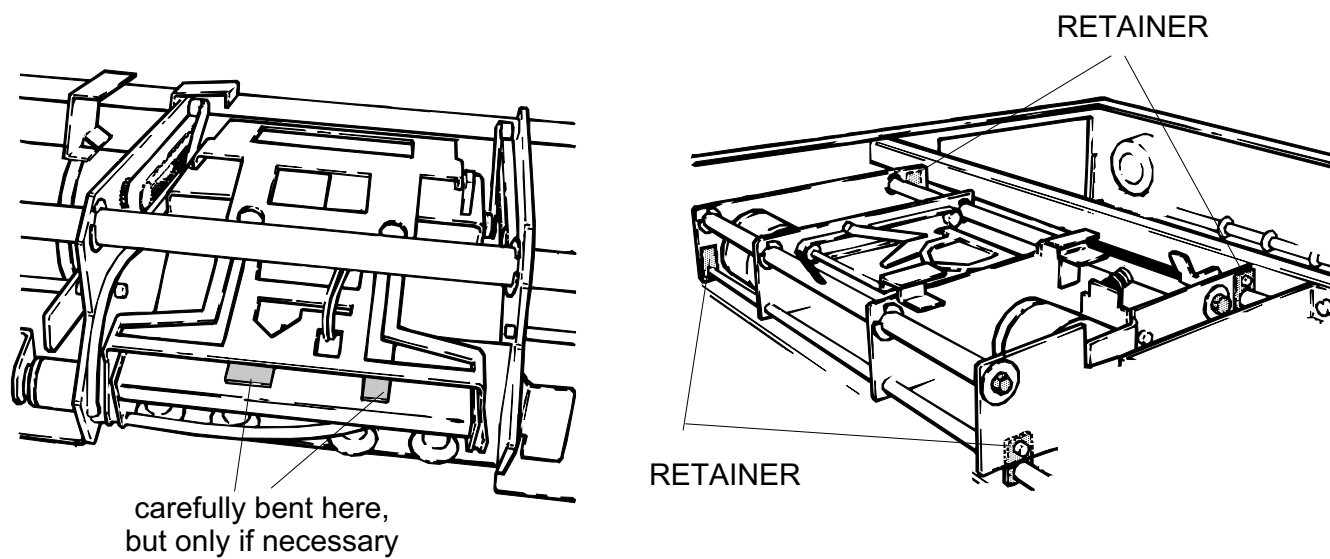

figure 3-10
- 7.** If it is not possible to reach the 18 mm, bend the parts shown up or down as required. See figure 3-10 on the next page.